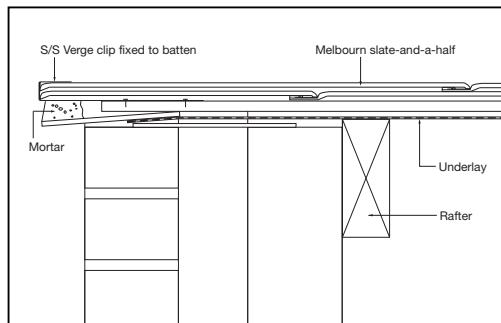

Fig 75 - Bedded verge section showing verge clip
- 1 Fix undercloak over underlay to give 38mm to 50mm projection at the verge. (The battens should be cut 100mm back from the edge of the undercloak.) (Fig. 75)